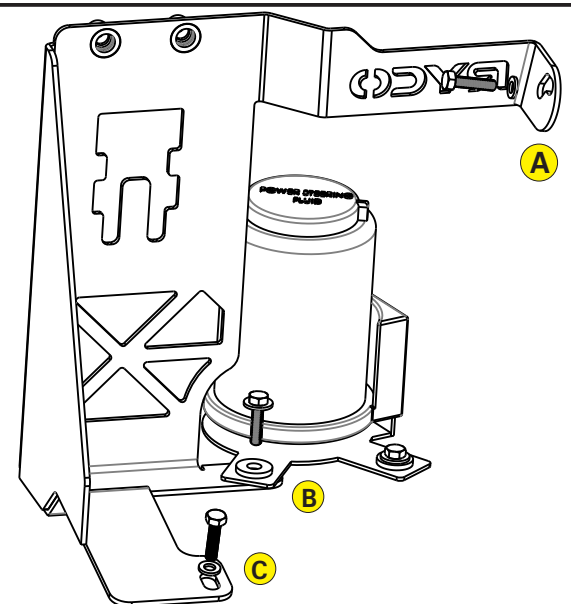

FIG. 2 BRACKET INSTALLATION
1. Locate the power steering reservoir behind the airbox. Remove the factory M6 bolt holding the power steering reservoir mount closest to the engine, see Fig. 2. (Note: You do not need to remove the other factory bolt)
4. Tighten all fasteners as per Fig. 2.